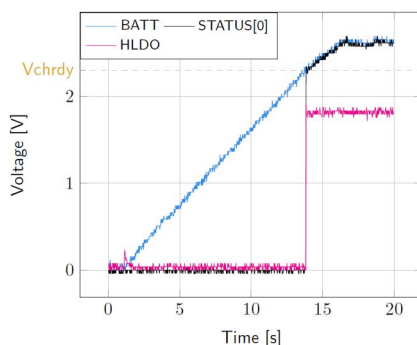

Figure 2: **STATUS[0]** and **HVOUT** evolution with **BATT**
**BATT**: Voltage rises as the power provided by the source is transferred to the storage element (see Figure 2).
**HVOUT/LVOUT**: regulated when voltage on BATT first rises above  $V_{chrdy}$  (see Figure 2).
**STATUS[0]**: Asserted when the LDOs are ready to be enabled (see Figure 2).